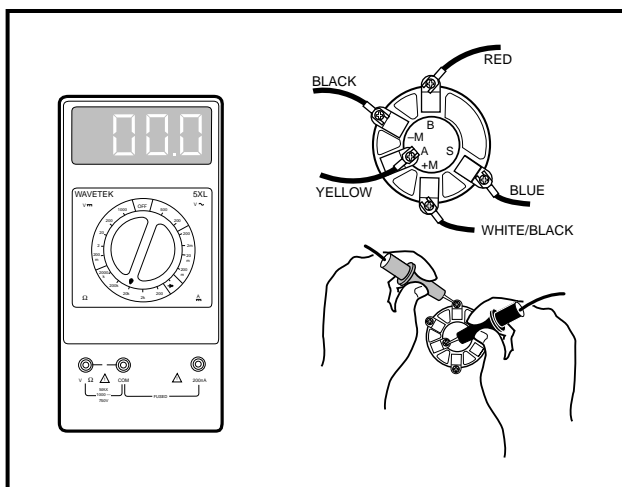

Figure 11-27 Key Switch Test – Accessory Terminal
4. Insert the key and turn the key to ON. Place the red (+) probe of the multimeter on the (B) terminal and the black (-) probe on the (A) terminal of the key switch. The reading should be continuity. If the reading is incorrect, replace the key switch (**Figure 11-27, Page 11-25**). **See Key Switch Removal, Section 12, Page 12-15.**
5. With the key still in the ON position, place the red (+) probe of the multimeter on the (B) terminal and the black (-) probe on the (S) terminal of the key switch. The reading should show no continuity. If the reading is incorrect, replace the key switch. **See Key Switch Removal, Section 12, Page 12-15.** If the reading is correct, leave the probes connected and proceed to the next step.
4. Insert the key and turn the switch to the ON position. With the multimeter set to 200 Ω (ohms), place the red (+) probe of the multimeter on the (B) terminal and the black (-) probe on the (A) terminal of the key switch (**Figure 11-27, Page 11-25**). The reading should be continuity. If the reading is incorrect, replace the key switch. **See Key Switch Removal, Section 12, Page 12-15.**